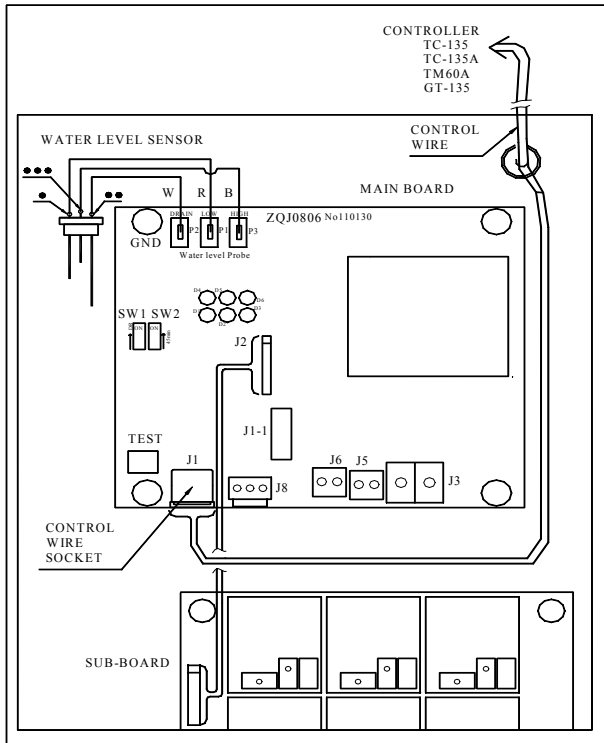

Figure 13
**Auto drain solenoid valve (Only with Auto drain model):** Please apply seal glue to the drain pipe (Part 13 in Figure 1), then screw in the auto drain solenoid valve and plug in the power wire provided (Please refer to part A in figure 13).